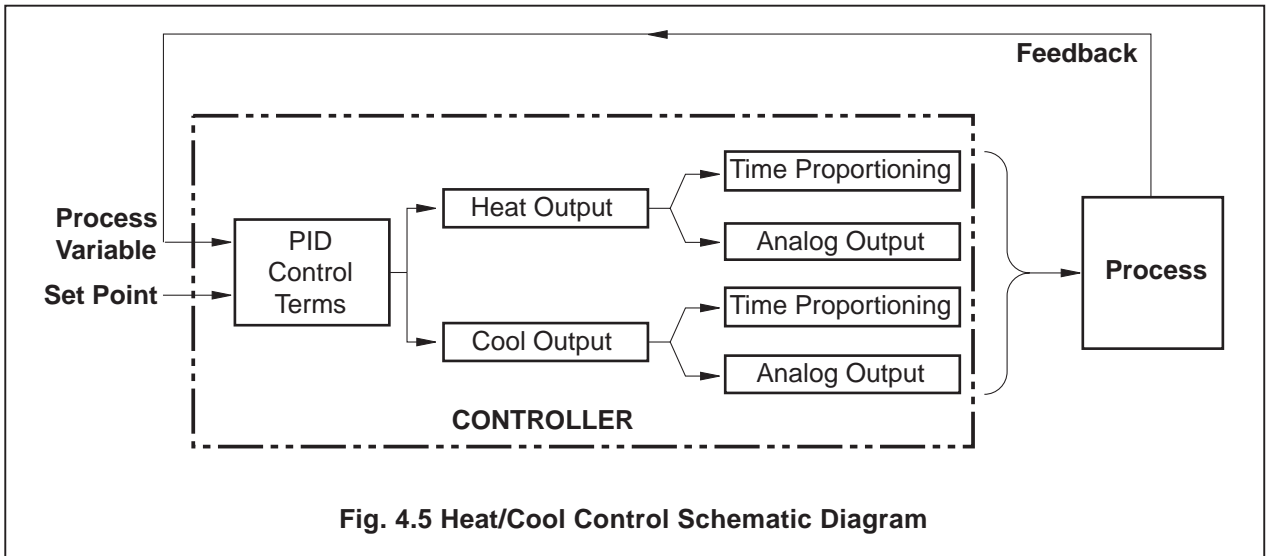

Fig. 4.5 Heat/Cool Control Schematic Diagram
- HEATCOOL* – Heat/Cool control mode – see Fig. 4.5.